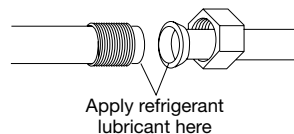

Figure 16
8. Be sure to apply refrigerant lubricant to the matching surfaces of the flare and union before connecting them together. This is effective for reducing gas leaks (Figure 16).